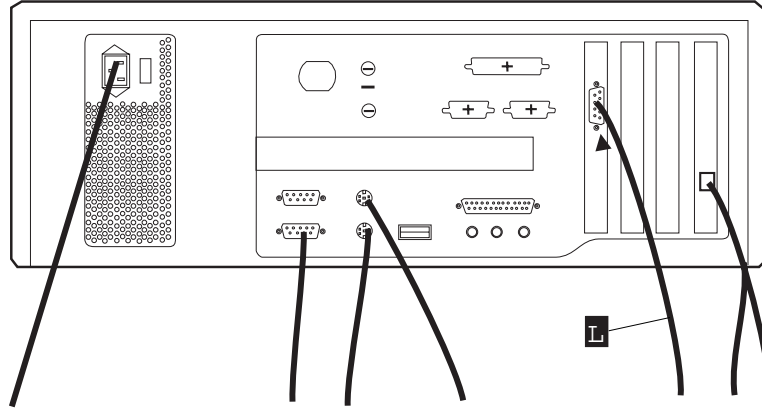

Figure 6-8. Display Connection to the NAS
5. At the rear of the Nways Switch administration station, connect the display signal cable **L** (see Figure 6-8 on page 6-7).